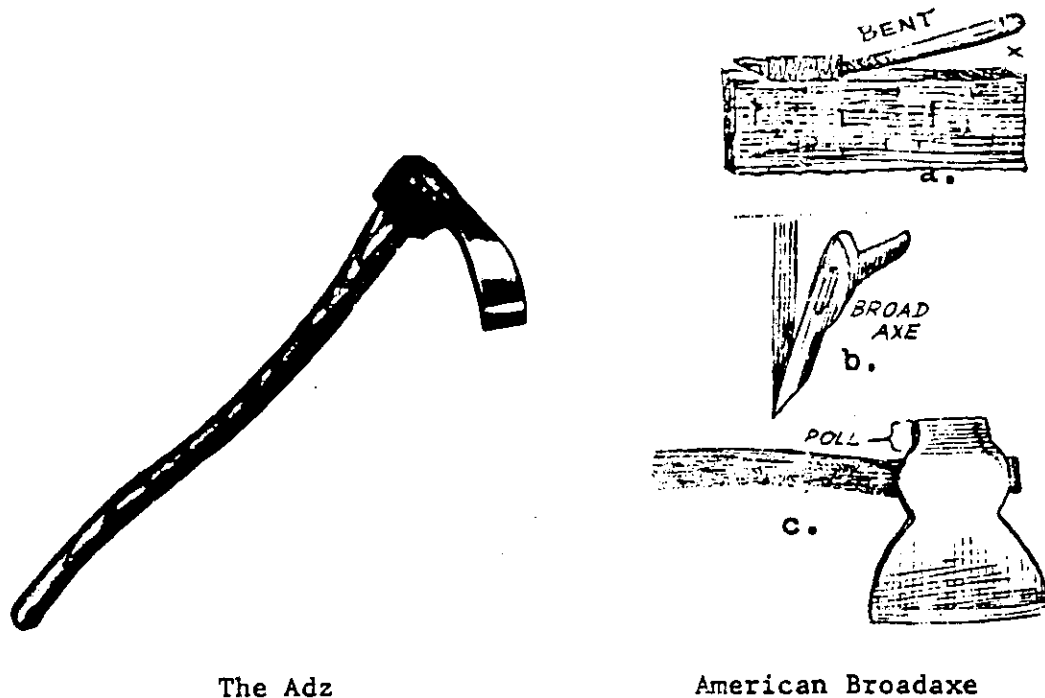

Figure 16 The Adz and Broadaxe
for squaring and hewing. It was excellent for hewing round logs into square beams. A man, skilled with a broadaxe, could transform a round log into a square beam in just a short time. As a rule, the adz would make surfaces smoother but usually took a little more time. The broadaxe is seen in Figure 16 along with the adz.
2. The Adz (Figure 16) is shaped like a hoe but has the cutting edge of an axe. This cutting tool differs from an axe, having an arching blade set at right angles to the handles, much like a grub hoe. The adz consists of a hardened steel head with a curved blade at one end $3\frac{1}{2}$ to $4\frac{1}{2}$ inches wide and usually a curved wooden handle to give balance and the proper angle for cutting. It is used for debarking, cutting, shaping and smoothing lumber or logs when a large amount of wood is to be removed. To use the adz, the timber to be worked should be straddled. The adz is then swung downward and towards the body, using short chopping strokes. The adz, like the drawknife, is becoming somewhat obsolete, but for the bushman who loves to do rustic building in the woods without all of the modern conveniences, the adz is a welcomed addition to his pioneering tools.